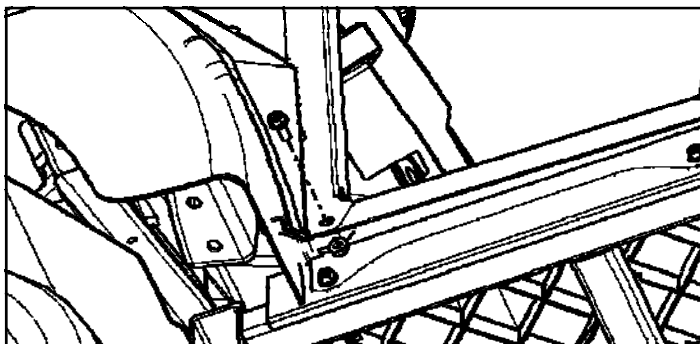

Figure 6.3: A-Pillar panel, (left shown)
- (1) 5/16-18 Flanged nut
Per figure 6.3, connect the A-pillar to the floorboard with one (1) 5/16 x 3/4" bolt and nut. Leave loose. **(Figure 6.3).**